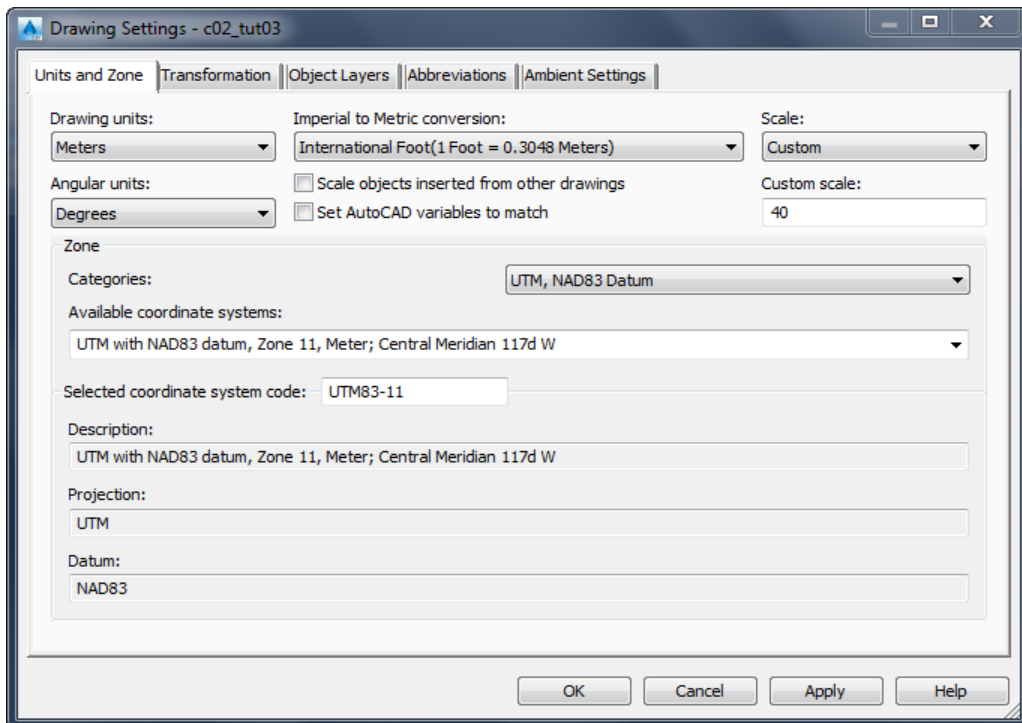

Figure 2-66 The Units and Zone tab of the Drawing Settings dialog box
5. In the **Units and Zone** tab of the **Drawing Settings** dialog box, refer to Figure 2-66, ensure the settings are as follows: